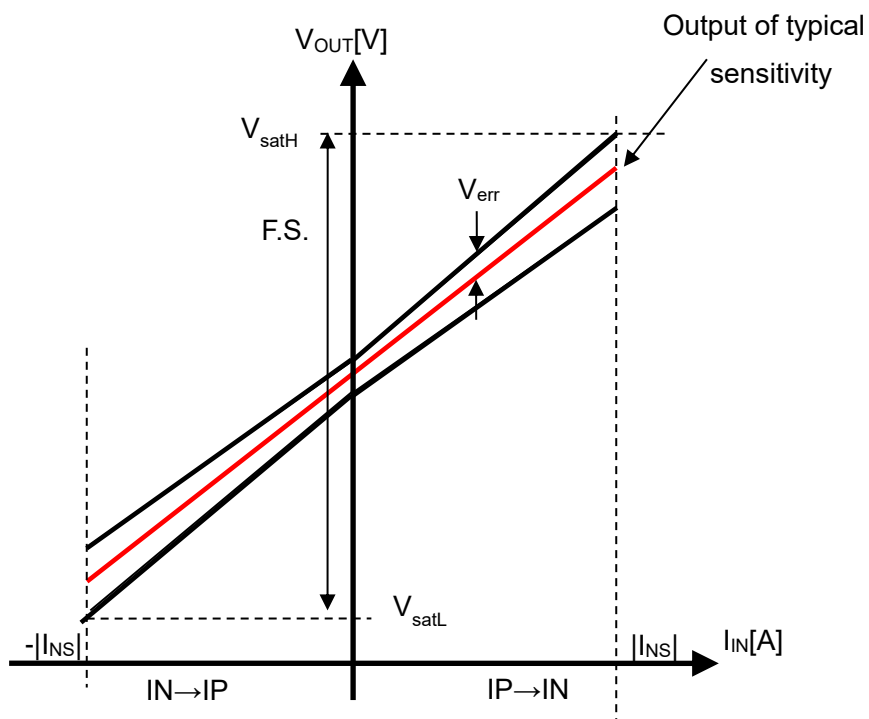

Figure 4. Total Accuracy of CZ-3A06
10.2. Total Accuracy E_{total} [%F.S.] is defined as below (See Figure 4.)